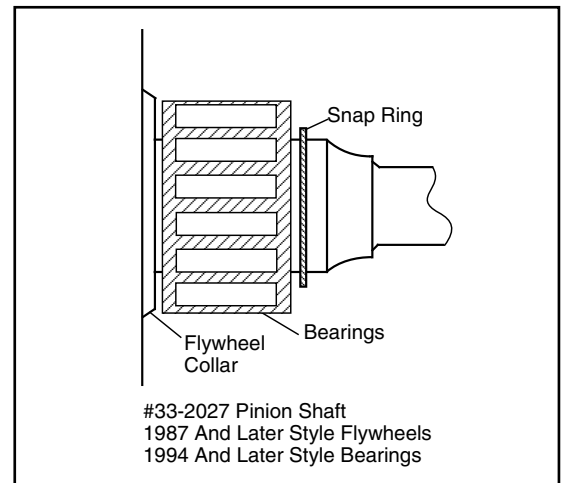

Figure 9
3. 1987 to 1989 big twin or S&S SL or BL flywheels for 1981 and later, and S&S pinion shaft 33-2027 - No thrust washers are normally used. Typical arrangement - Bearing cage against flywheel, and snap ring directly against bearing cage. **See Figure 9.**